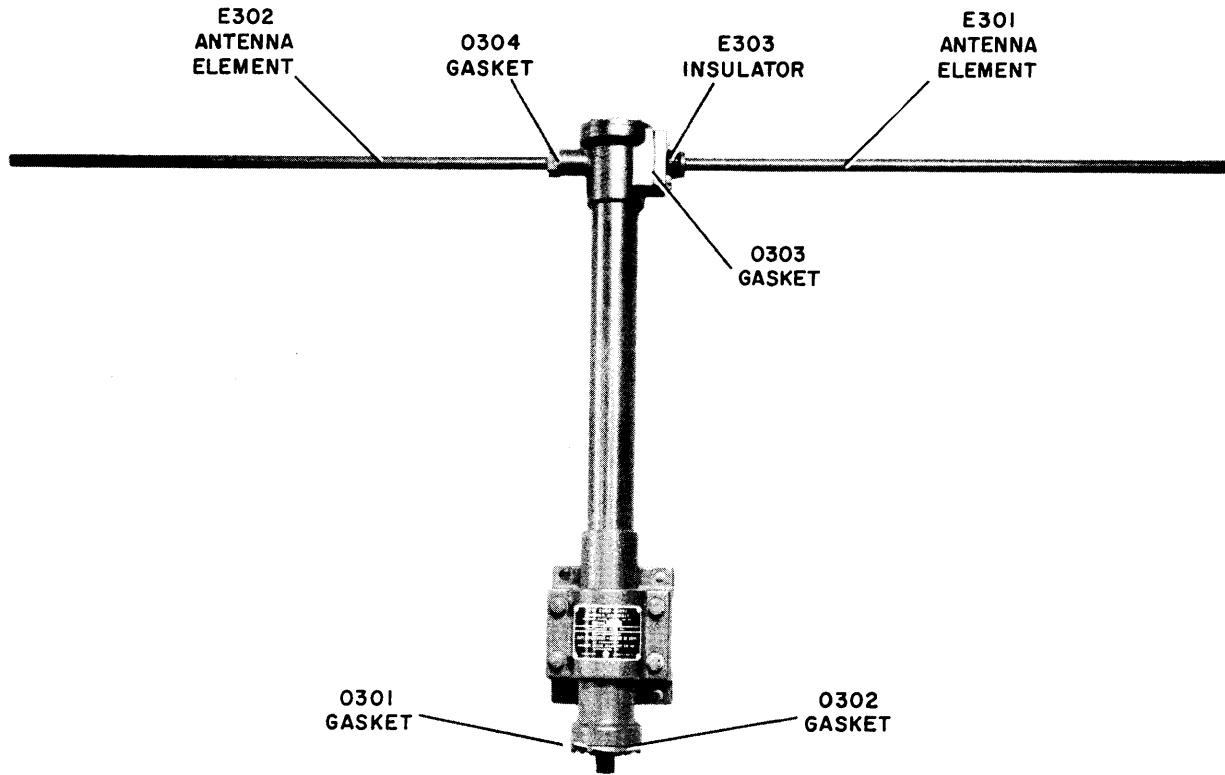

Figure 7-9. Antenna Navy type -66095, Component Locations
(4) REMOVAL OF THE POWER SUPPLY.—The power supply is constructed as an assembly to allow removal if access to the underside is desired. To remove the power supply proceed as follows:
(5) REMOVAL OF THE EXTERNAL METER.—Should it become necessary to replace the variable resistor R601 in the external meter release the three captive screws which secure the meter to the front panel of its case. Lift out the meter, The connections to the meter, the cable and the potentiometer become accessible through the meter mounting hole. Use a 9/16" socket wrench to remove the potentiometer retaining nut. Reinstall the resistor and the meter by the reverse procedure.
(6) ANTENNA, NAVY TYPE -66095.—Figure 7-9 shows the component locations for the antenna. Should repair become necessary requiring the disassembly of the antenna, reference to Figure 7-9 will serve as a guide to expedite repair.